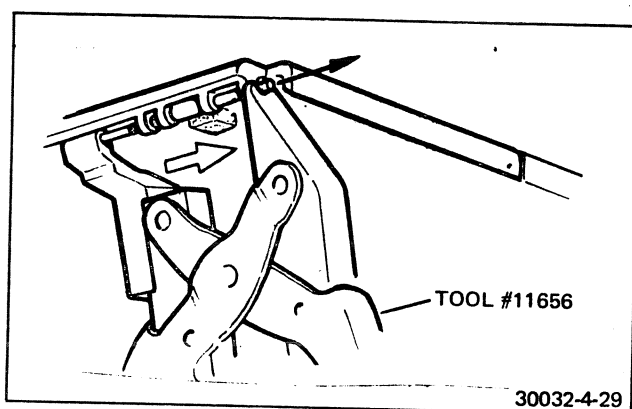

FIGURE 4-29 HINGE PIN REMOVAL TOOL
- h. Remove the two (2) shutter hinge bracket-to-short-cover pins with Special Tool #11656 (Figure 4-29).